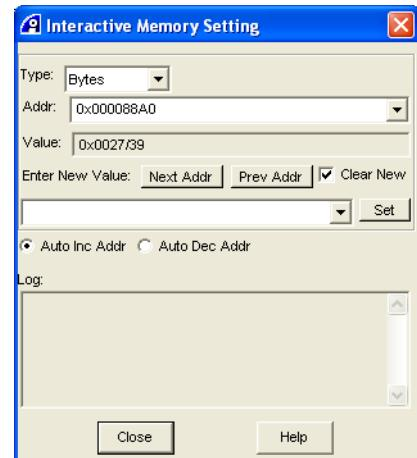

Figure 14-19 Interactive Memory Setting dialog box
5. Select **Debug → Memory/Register Operations → Set Memory...** from the main menu to display the Interactive Memory Setting dialog box. Figure 14-19 shows an example: